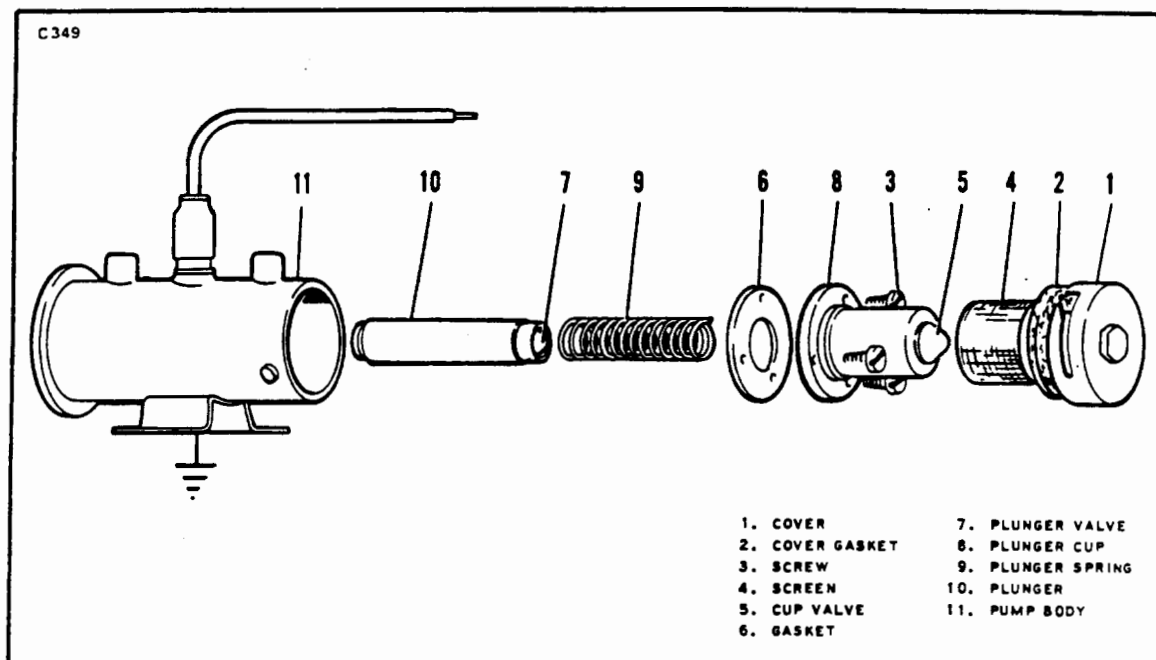
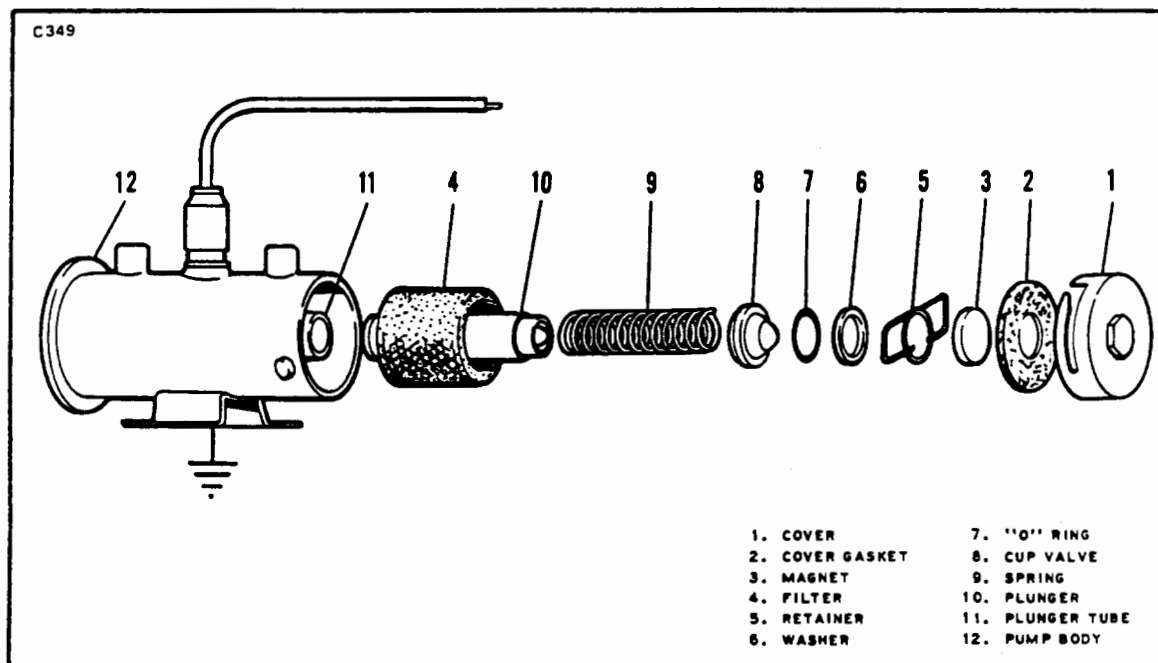

Figure 9-11. Plunger Fuel Pump (Early)
Figure 9-12. Plunger Fuel Pump (Late)
a. **Early Type Pump:** (Refer to Figure 9-11.)
b. **Late Type Pump:** (Refer to Figure 9-12.)
- a. Later Type Pump: (Refer to Figure 9-11.)
1. Insert the plunger assembly (10) in the tube with the buffer spring end first. Check fit by slowly raising and lowering the plunger to stick. If a click cannot be heard, the interrupter assembly is not functioning properly in which case the pump should be replaced.
b. Early Type Pump: (Refer to Figure 9-12.)
1. Insert the plunger spring assembly (10) in the tube with the buffer spring end first. Check fit by slowly raising and lowering the plunger in the tube. It should move fully without any tendency to stick. If a click cannot be heard, the interrupter assembly is not functioning properly in which case the pump should be replaced.